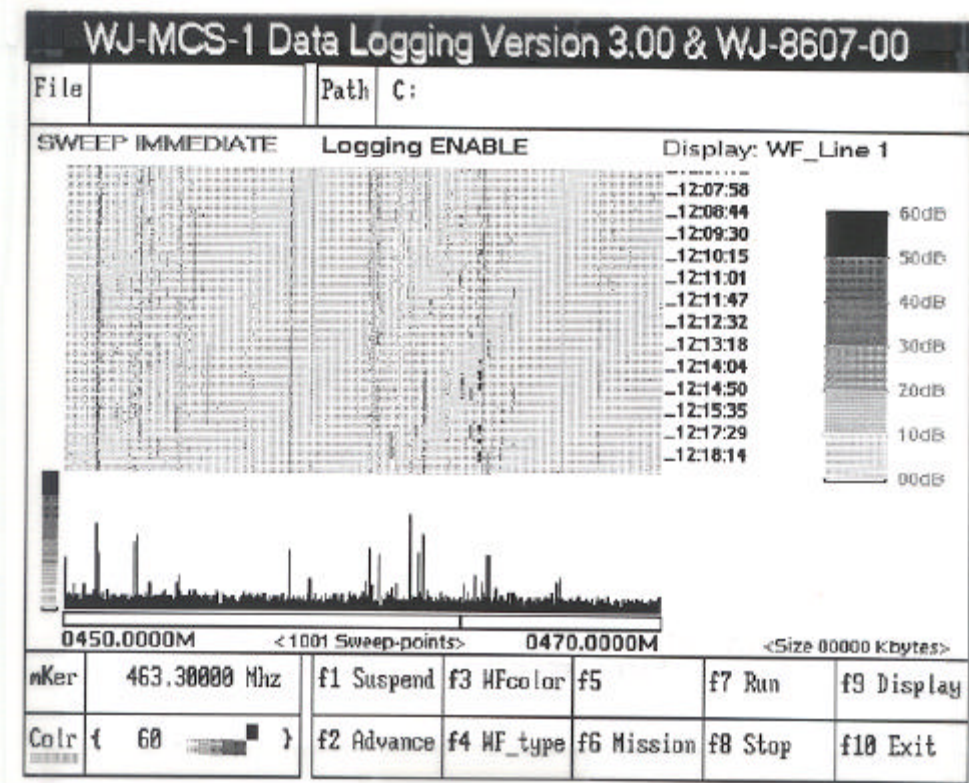

Figure I-27. DATA LOGGING WF_Line 1 Display
- 1. "WF_Line 1" - (Waterfall Line 1, shown in **Figure I-27**) uses a combination of two-dimensional and three-dimensional displays. The two-dimensional display represents frequency (x-axis) versus signal amplitude (y-axis) in a block format display. The three-dimensional display represents frequency (x-axis) versus time (y-axis) versus signal amplitude (color code). The two-dimensional display is cleared prior to each sweep, while the three-dimensional display retains sweep data.